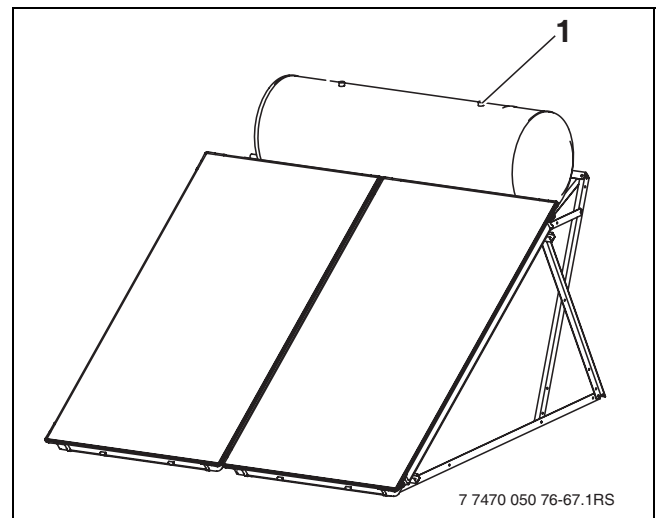

Fig. 57 Filling the system
- ▶ Fill the cylinder with heat transfer medium from the top (Fig. 57, [1]) until it begins escaping from the filler.
- Fill the cylinder with heat transfer medium from the top (Fig. 57, [1]) until it begins escaping from the filler.